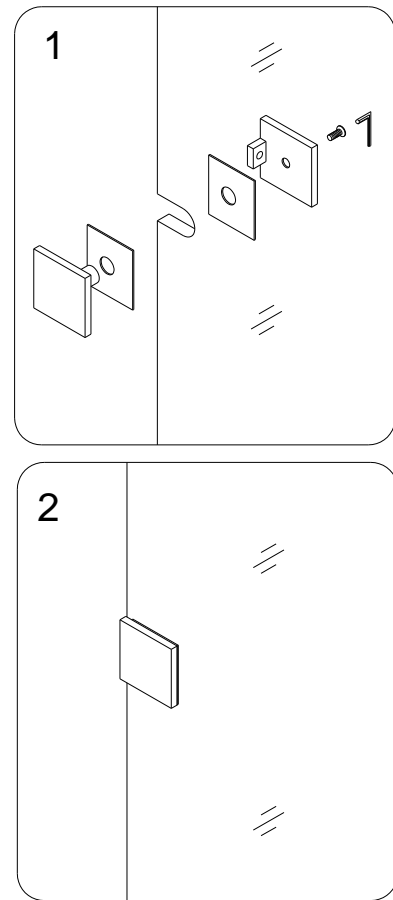

Fig. 4
5. Place the **Stationary glass panel** against the installed **Brackets** and secure it to the wall by attaching the fastening parts of the **Wall Brackets** to the mounted parts with the supplied bolts. See Fig. 4 for details.